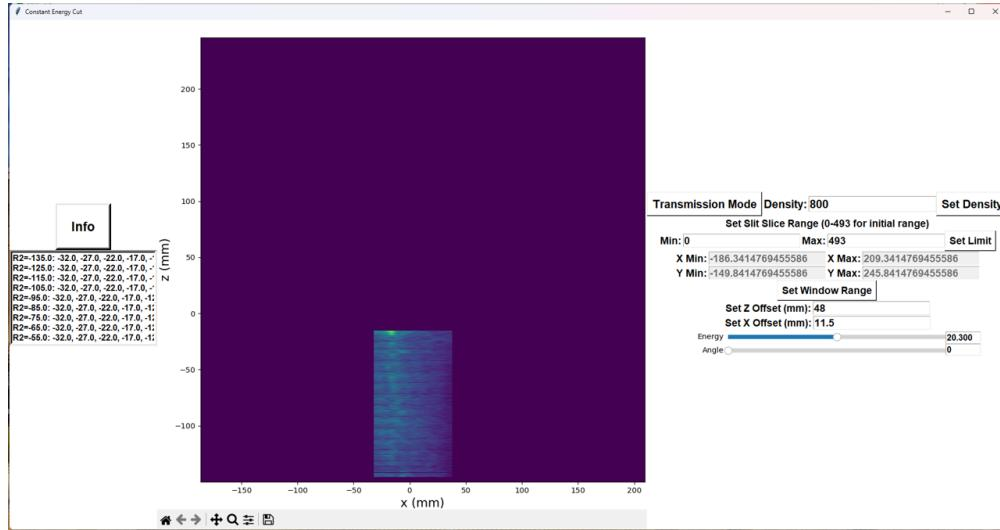
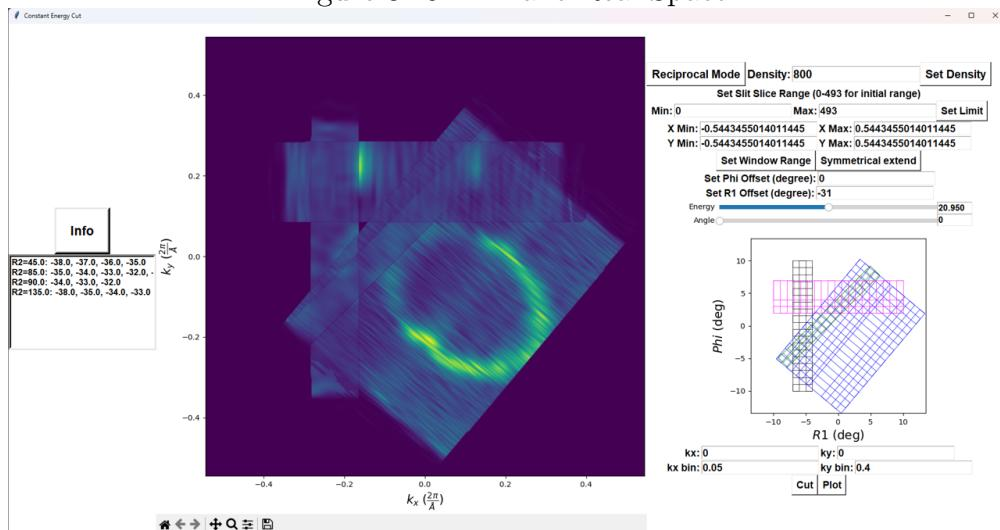

Figure 3.29: k-Plane Real Space
Figure 3.30: k-Plane Reciprocal Space
The k-Plane interface is used to visualize the constant energy surface of the data in real or reciprocal space. The real space [Figure 3.29], referring to the transmission mode in the interface, constant energy mapping could help users choose where the better position to probe and acquire the data. The reciprocal space [Figure 3.30], referring to the reciprocal mode in the interface, constant energy mapping shows the k-space information of the data. The user can choose a certain region in the reciprocal space to slice the whole data cube to an E-k 2-D data for further analysis. The figures below are just for demonstration purpose. The data presented in the figures were obtained from the ARPES experiment on the Cu (111) surface; however, the file name does not precisely correspond to the experimental conditions. Instead, some duplicate data files are used to check the function of the interface.
Sling is only available in reciprocal mode. [Figure 3.30] When processing the data, you might discover the region near the boundary not so ideal as expected. That's because the data is acquired through a 2D detector, and the photoelectrons are not collected to project onto full of the detector. Therefore, the data in the boundary region is not so reliable as the data in the center region. **Min**, **Max** entries could help user to solve this kind of problem by limiting the data range along the original angle-resolved axes. These two entries should be set as integer values, ranging from 0 to 493. This range represents the number of pixels in the